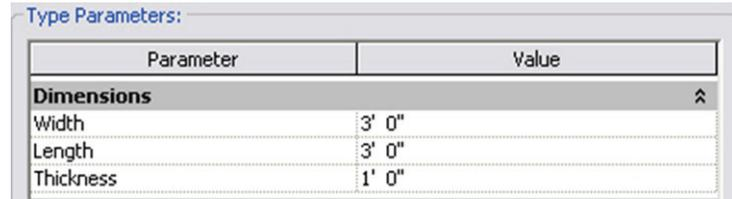

Figure 7-44
7. In the Type Properties dialog box, set the *Width* to **3'-0"**, *Length* to **3'-0"**, and *Thickness* to **1'-0"** as shown in Figure 7-44.